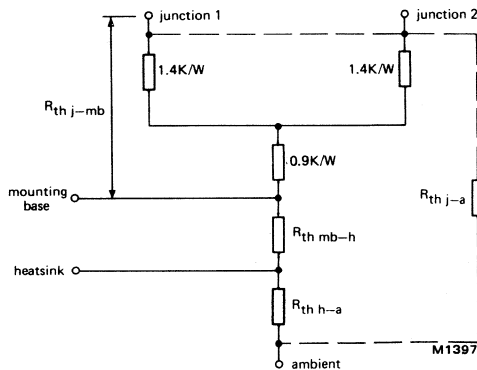

Fig.4
- The various components of junction temperature rise above ambient are illustrated in Fig.4